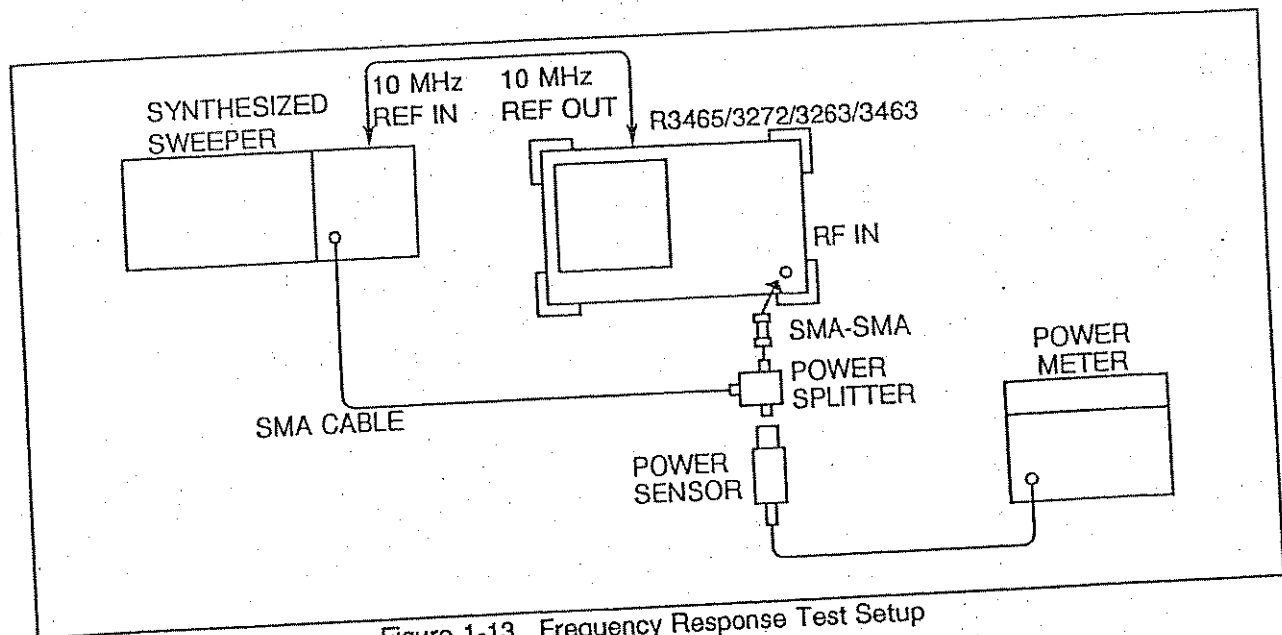

Figure 1-13 Frequency Response Test Setup
(1) Zero and calibrate the power meter.
(2) Connect the equipment as shown in Figure 1-13.
(3) Press the **INSTR PRESET** key on the SG3. Set the SG3 controls as follows: